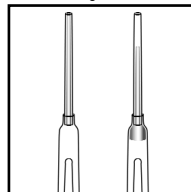

Figure 4
6. **Required for R-9510D only:** Pull the VACUette into a vertical position. A small portion of the collected sample should fall into the sleeve of the VACUette tip (fig. 4).